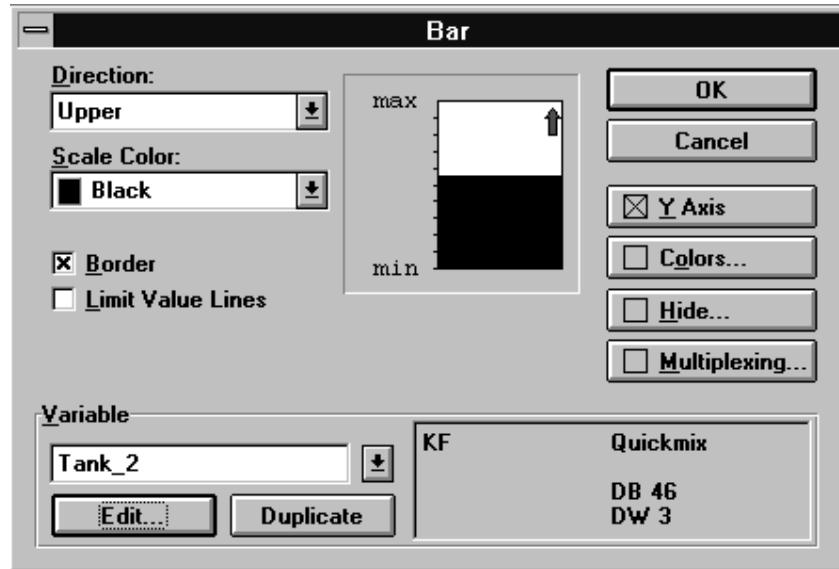

Figure 7-11 Specifying a Bar Graph
2. Position the mouse pointer within the screen at the location where you wish to insert the field. Hold down the left mouse button and drag the field to the size you require. When you release the mouse button, the dialog box, which is shown in figure 7-11 and in which you specify the bar graph, is displayed.